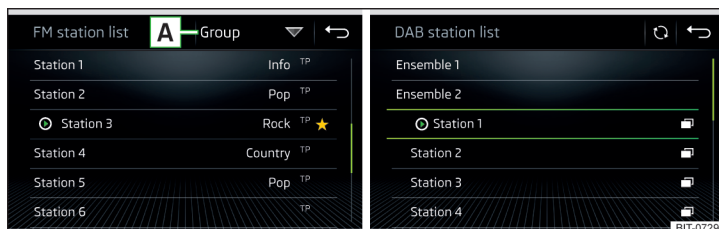

Fig. 142 Example, the list of available FM/DAB stations
- To **sort** (FM) the stations in alphabetical order, by group or genre, tap on the function surface » Fig. 142 » .
- To **filter** the stations based on the program type (e.g. Music, Sport etc.) in the FM station list (with activated RDS function) and the DAB station list (with alphabetical sorting of the channel list selected), tap the function surface » Fig. 142.
In the **AM** and **DAB** radio area, the update takes place manually by pressing the function surface » Fig. 142.